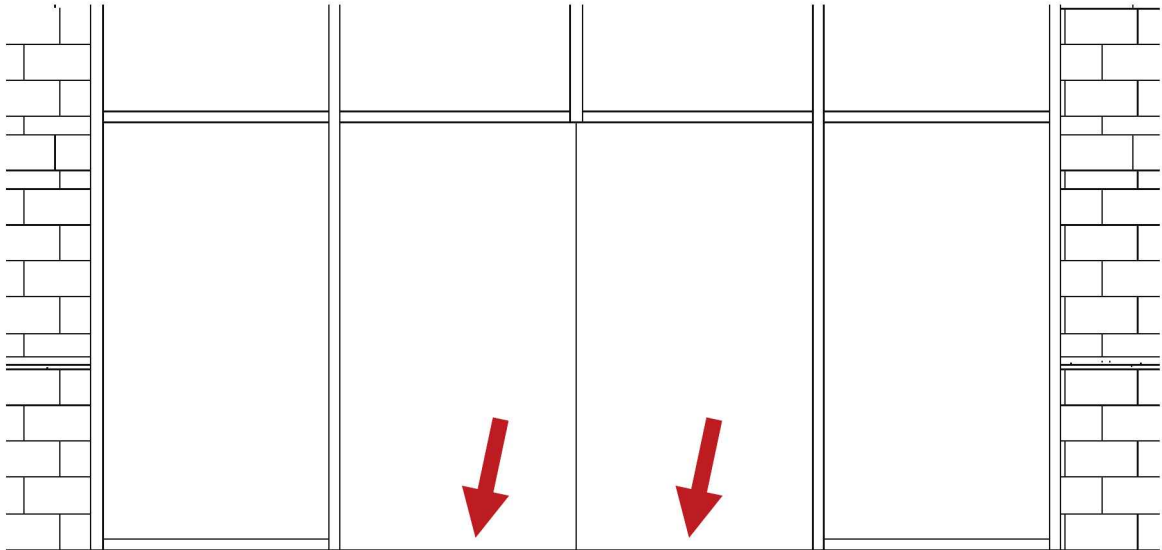

FIGURE 10-3.7 Cross Section 1 – main entry curtain wall area; three mullions deleted
17. **Delete** the two horizontal mullions, at the floor, as shown in Figure 10-3.7 below, per the previous steps.